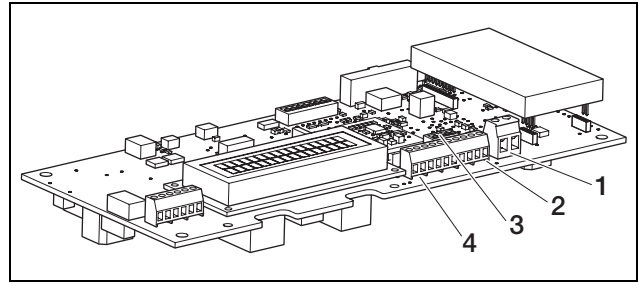

Fig. 52: Communication board I connections
The switch output (terminal S0/AL-OUT, position 1 in fig. 52) has different functions depending on how it is set (see «Setting the switch output function» on page 39). It can be used as an S0 interface, as an alarm output or for switching on devices (for internal consumption).
- Connect all wires to the appropriate terminals (fig. 52, position 1).
- Connect the lines to the terminal (4 in figure 52) according to the terminal assignment (table 6).